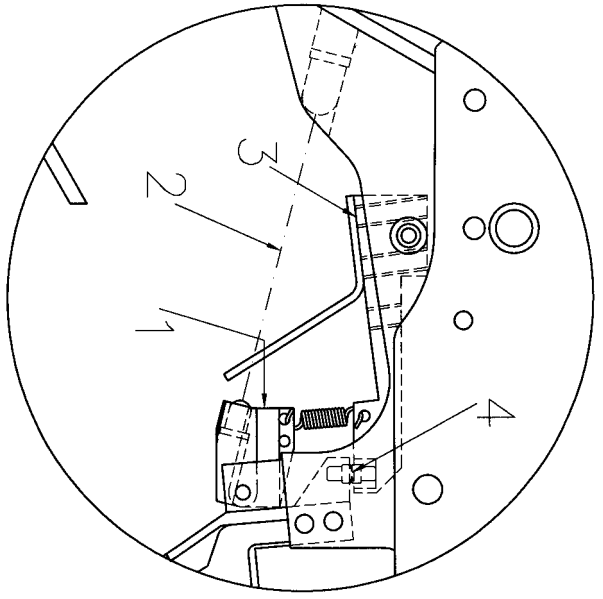

FIG. 3
2.3 Close the breech (2) fully down using the cocking lever (1) paying attention that your trigger finger is clear of the optical sensor line (*Fig. 3 (2)*), otherwise the shot may be fired accidentally caused by the vibration during the loading procedure, especially if the trigger adjustment is set too fine. As a precaution, we advise that you turn-off the electronic before loading the pistol.
2.4 To fire the shot, pull the trigger. Always pay attention that your finger interrupts the optical sensor (*Fig. 3 (2)*).
3. Trigger adjustment (*Fig. 3*)
5.3 Dust may accumulate around the trigger and the optical sensors (*Fig. 3 (4) (2)*). This can be easily removed using an air cleaner on a regular basis.